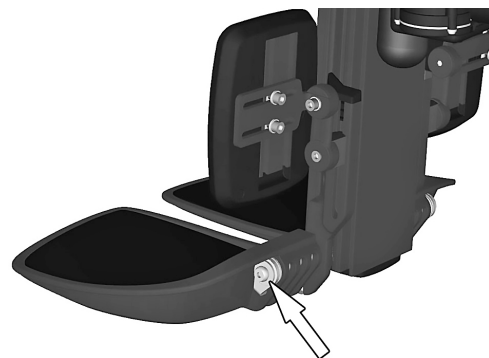

Figure 160. The friction brake's metal butt is in place in the intended hole in the footplate.
2. Mount the footplate friction brake by sliding the parts onto the shaft. Make sure that the metal butt is positioned in the intended hole in the footplate. See fig. 160.